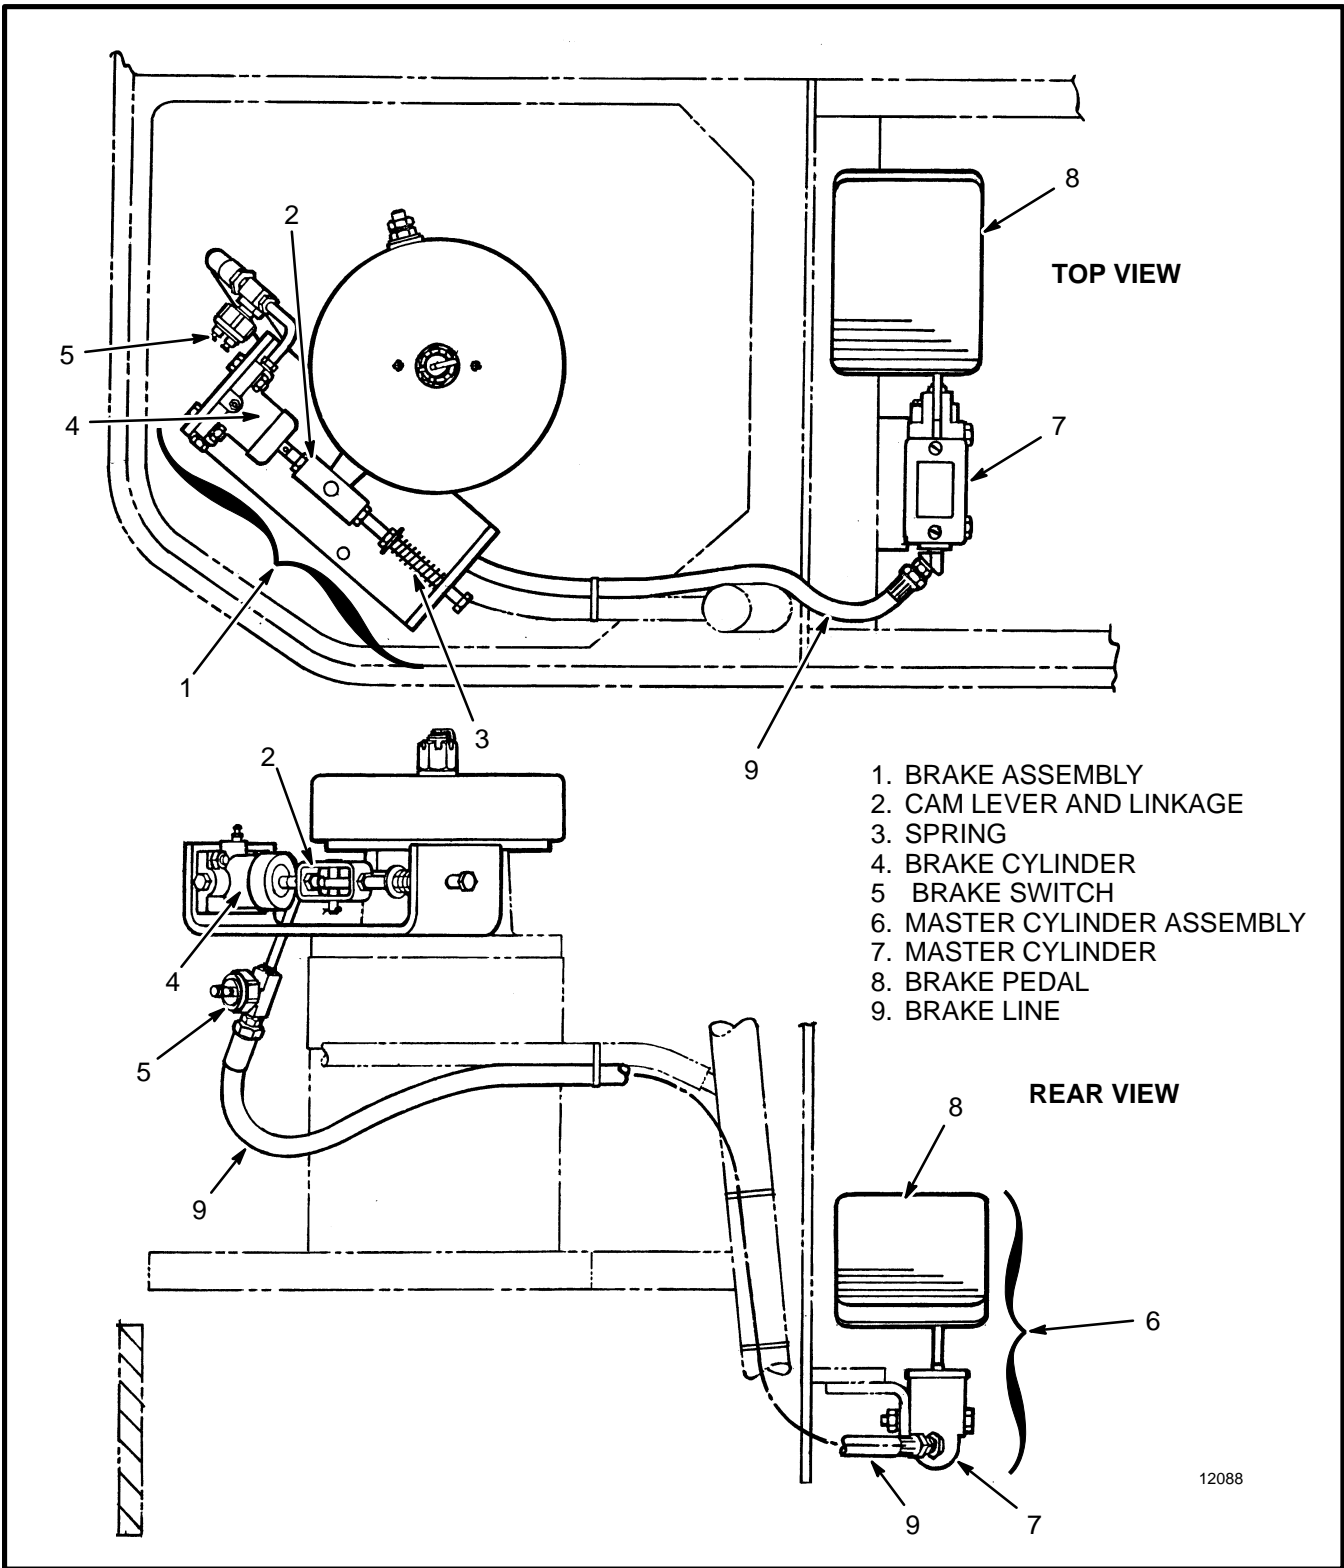
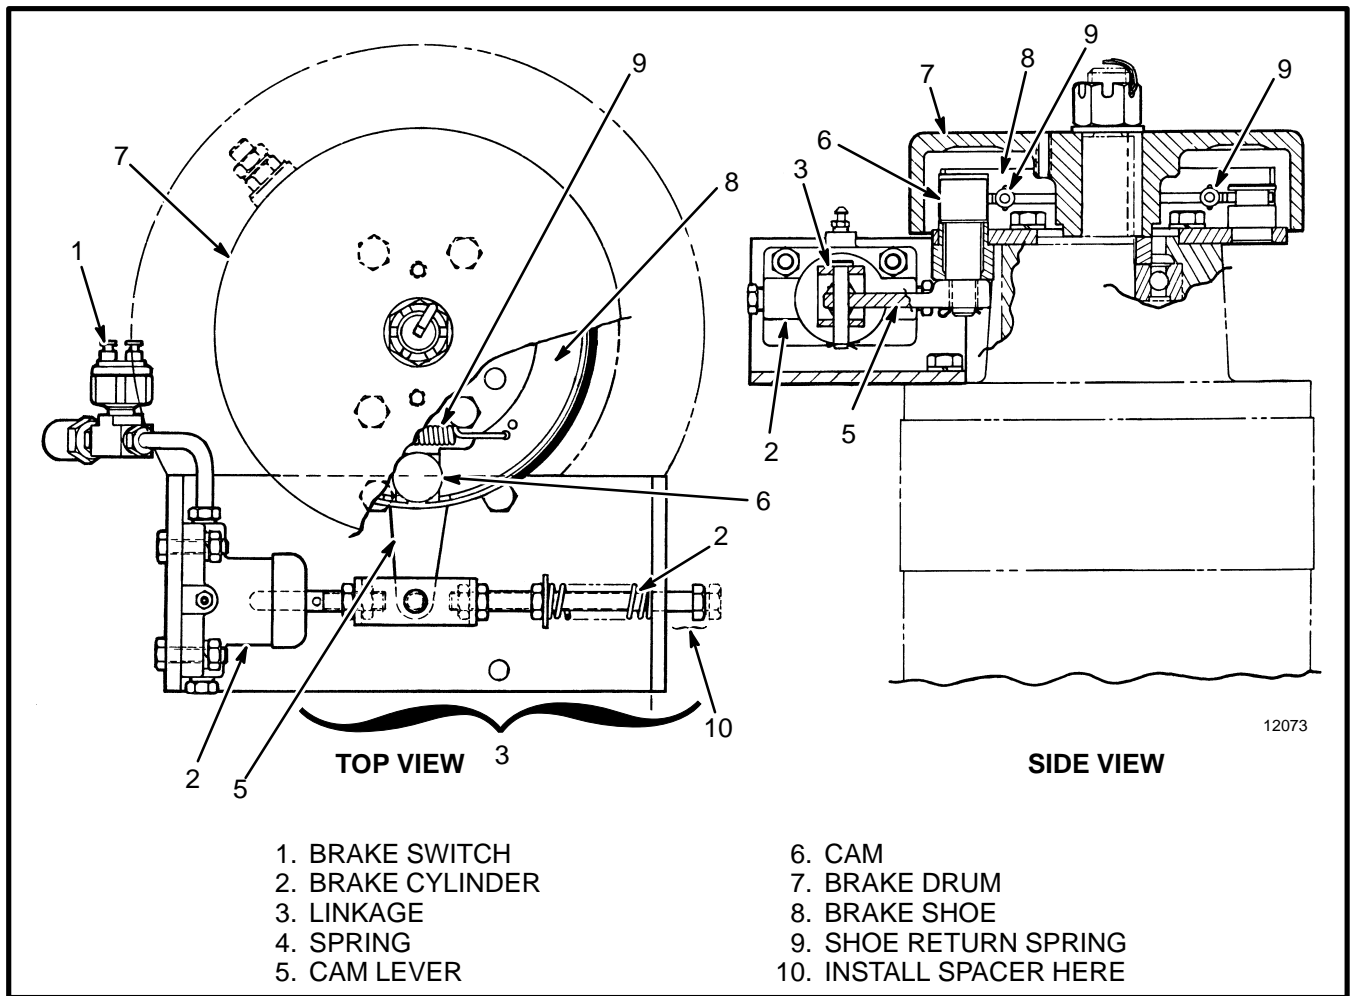
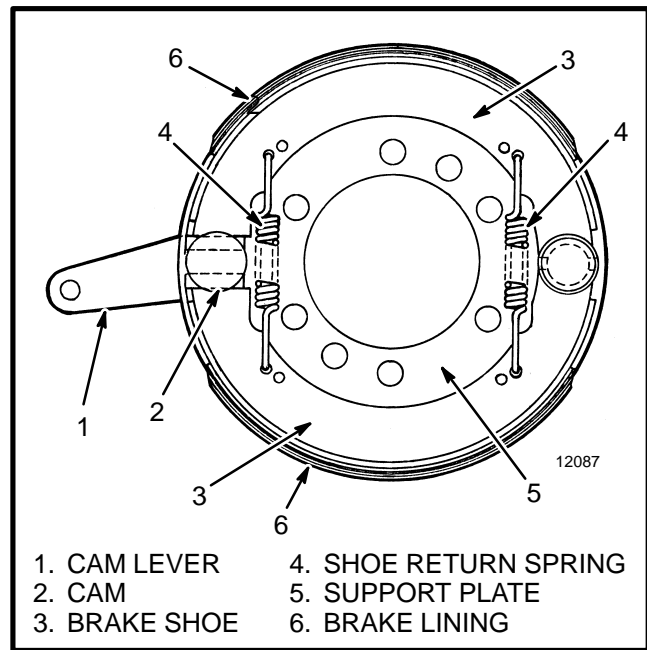
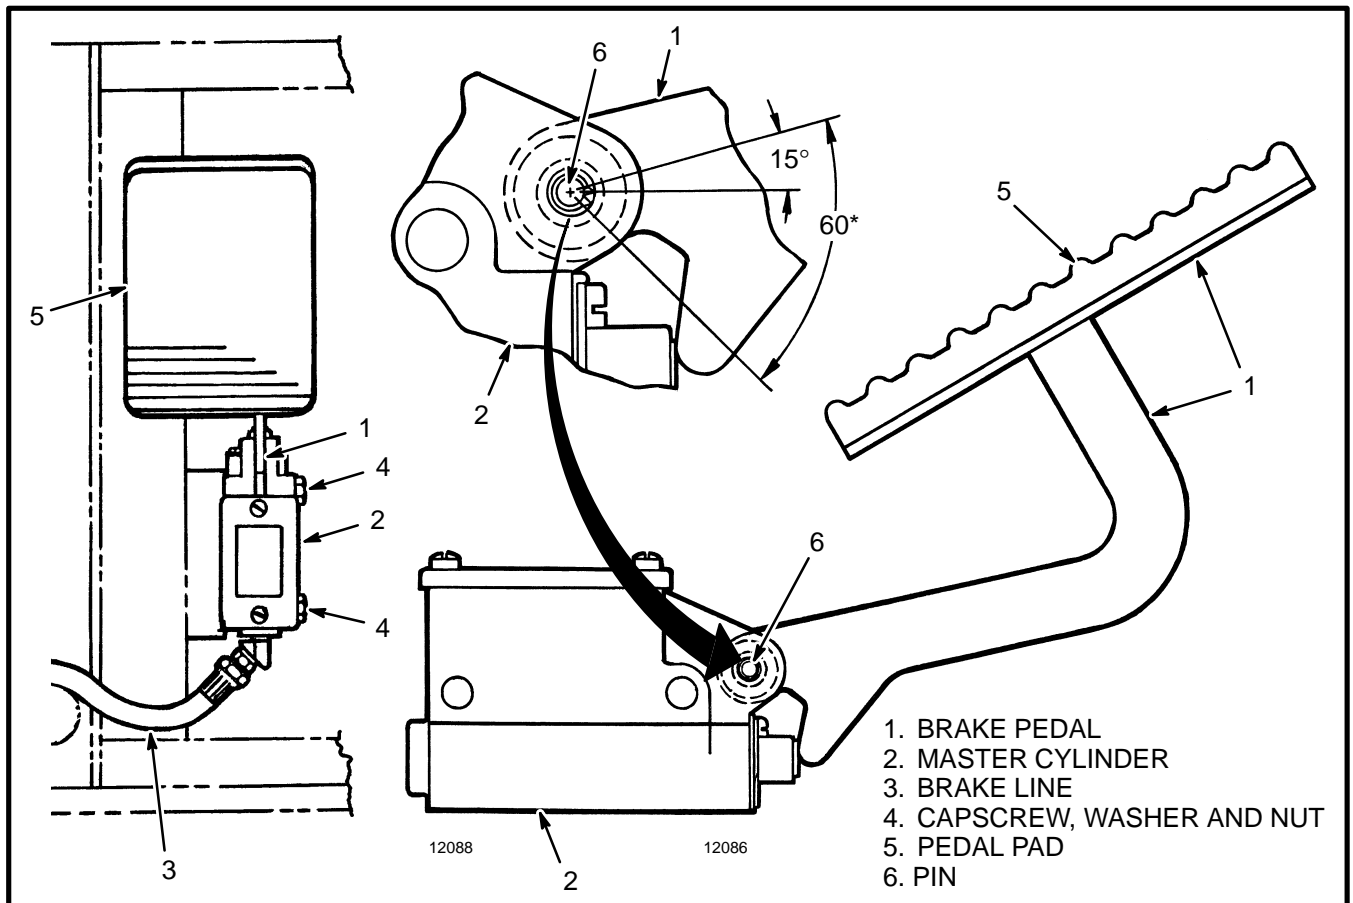

FIGURE 1. BRAKE SYSTEM
FIGURE 2. BRAKE ASSEMBLY
FIGURE 3. BRAKE SHOE ASSEMBLY
FIGURE 4. MASTER CYLINDER ASSEMBLY
### BRAKE SYSTEM (See FIGURE 1.)
### BRAKE SWITCH (See FIGURE 1. and FIGURE 2.)
#### Removal And Disassembly (See FIGURE 2. and FIGURE 3.)
2. Remove the cotter pin at the nut that fastens the brake drum. Remove the nut and washer. Have another person push and hold the brake pedal to release the brake shoes. Temporarily install a spacer under the head of the capscrew of the brake linkage. See FIGURE 2. Make sure the spacer will prevent the spring from moving the cam lever. Fasten the spacer to the linkage capscrew to prevent releasing the capscrew. Release the brake pedal and remove the brake drum.
3. Check for damaged or broken parts. Replace any damaged or broken parts. Replace both brake shoes if the minimum thickness of either brake lining is 2.4 mm (0.087 in) or less. Disconnect the shoe return springs and remove the brake shoes. See FIGURE 3.
**(See FIGURE 2. and FIGURE 3.)**
5. If removed, install the brake shoes on the support plate. Make sure the flat end of each shoe is installed against the cam. Install the shoe return springs in the correct holes. See FIGURE 3.
#### Removal And Disassembly (See FIGURE 1. and FIGURE 4.)
(See FIGURE 1. and FIGURE 4.)**
1. If removed, install the pedal on the master cylinder. Install the pin so that the slot is aligned as shown in FIGURE 4.
(See FIGURE 1. and FIGURE 2.)**